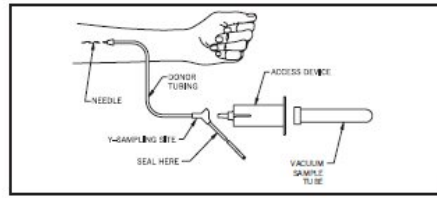

Figure 2
- To collect samples, insert the access device by pushing firmly into the Y-Sampling Site until the membrane seal is penetrated (see Figure 2).